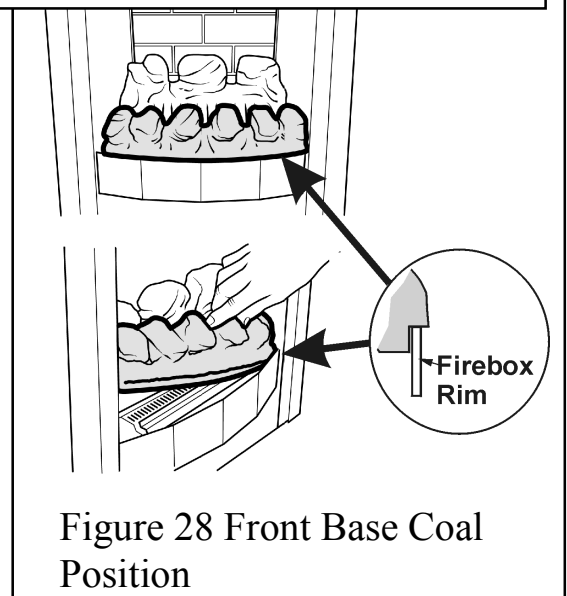

Figure 28 Front Base Coal Position
3. Place the front base coal in the firebox with its bottom front locating over the front rim of the firebox. Pull the coal forward so that it locates immediately behind the front rim of the firebox. See figure 28